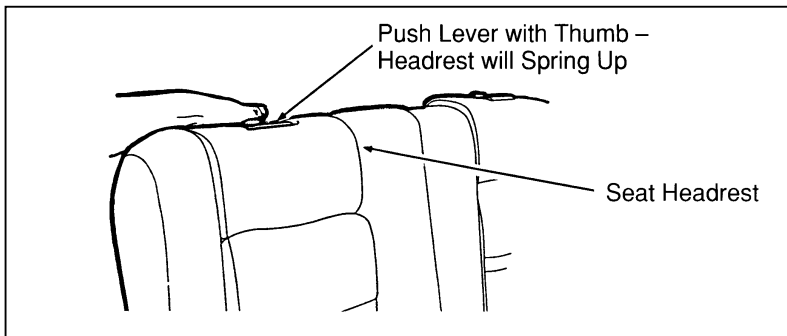
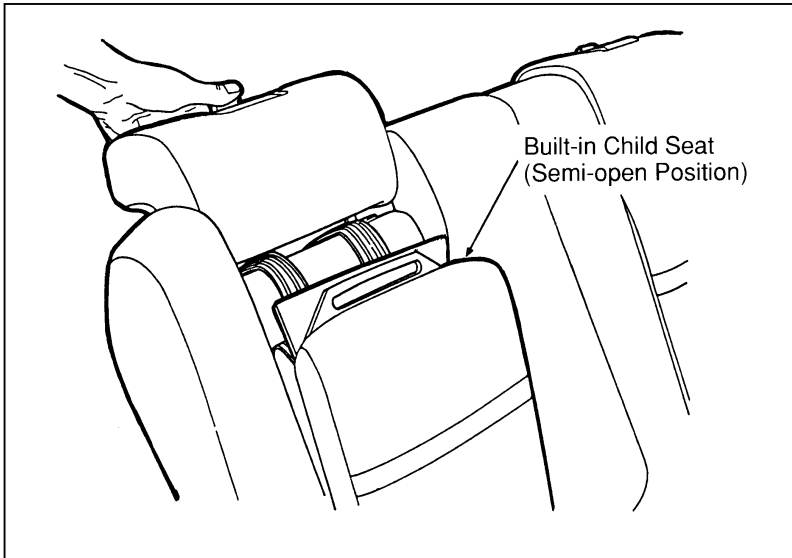

Figure 1: Releasing the headrest
Figure 2: Release the lever and rotate the headrest to the full up position
1. Push the headrest release lever and grasp the headrest as shown in Figure 1. Then release the lever and rotate the headrest **full up** until the latch “clicks” in the **full up** position. Refer to Figure 2.